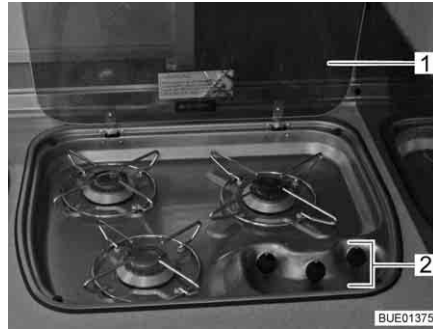

Fig. 210 Gas cooker
- Open the gas cooker lid (Fig. 210,1).
- Turn the control knob (Fig. 210,2) on the burner you wish to use to the ignition position (large flame).